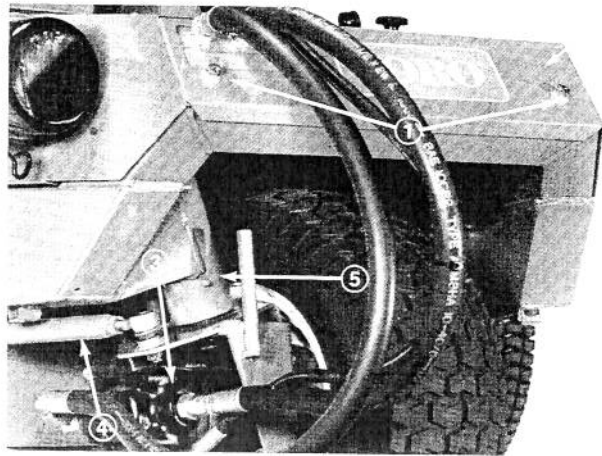

Figure 87
2. Remove rear wheel and hub assembly, place pan under machine and remove and cap hydraulic lines (Fig. 87).